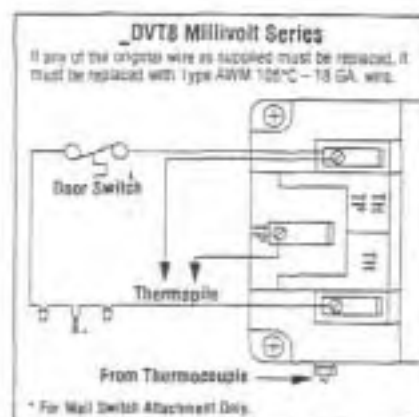
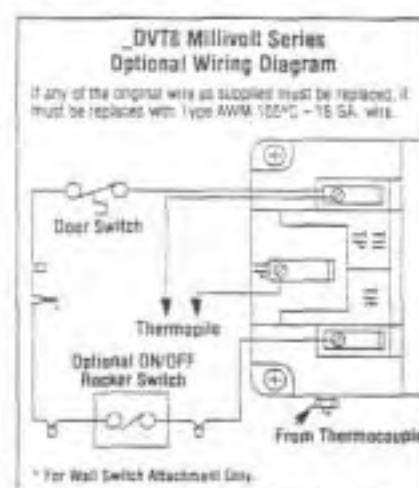

Figure 32
Figure 33
Step 6. Installing the Optional Remote Wall Switch – The standard _DVT8 millivolt system comes from the factory wired as shown in Figure 32. Select a convenient location for the remote wall switch and connect the wiring to the appliance (Figure 33).